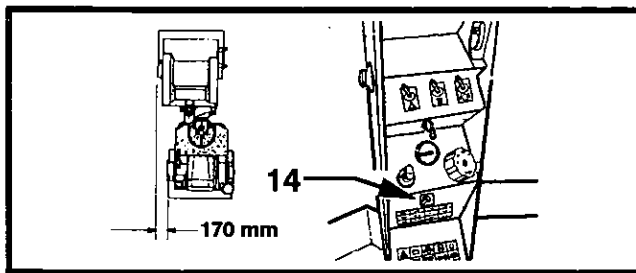

Figure 4-19 Drum Offset Adjustment Control Switch
1. To adjust the drum offset, it is recommended to move the machine slowly while operating the Offset control switch (14, Figure 4-19).